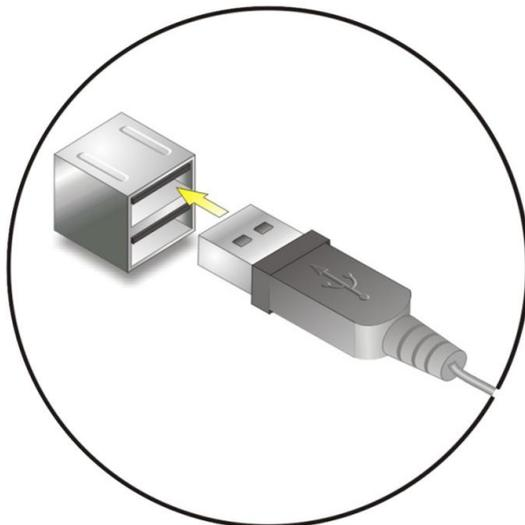

Figure 6 – USB Device Connection
Step 2: Align the USB device connector with one of the connectors (see Figure 6).